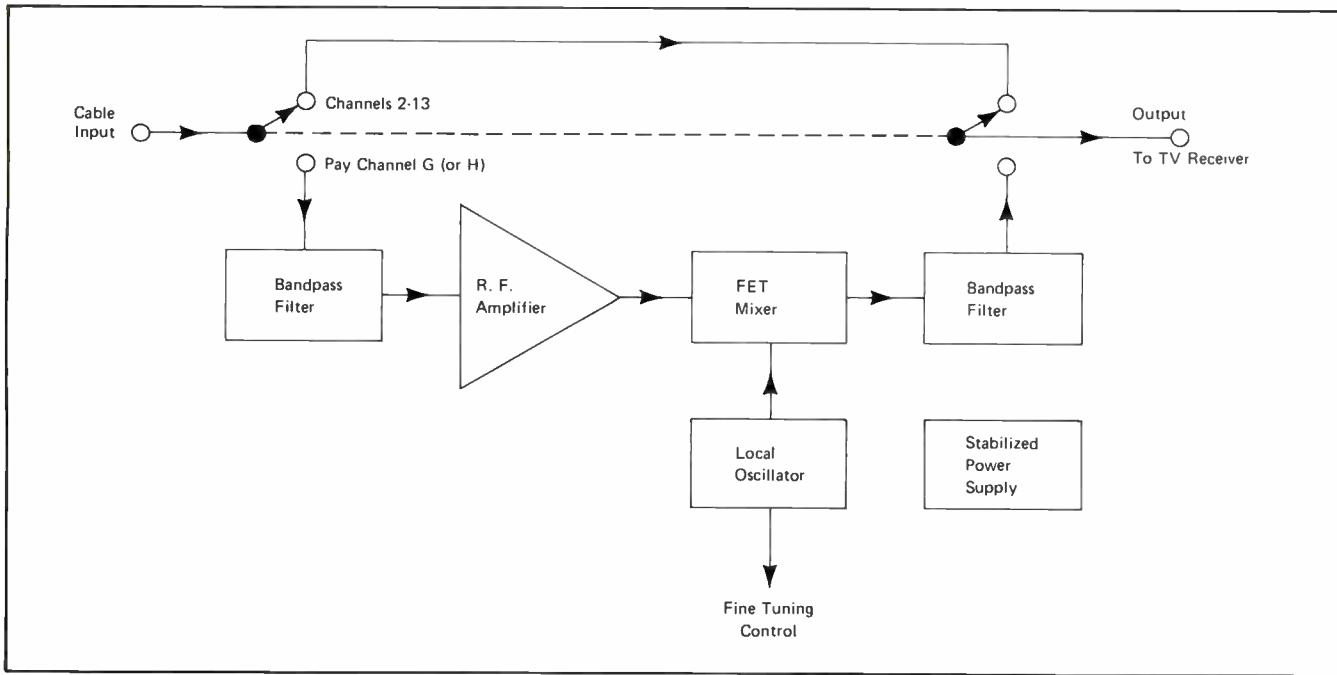

Figure 1. Oak Single Channel Converter Functional Block Diagram
**SCC (Single Channel Converter).** This converter (Figure 1) is intended for only one unscrambled pay TV channel, G or H. It passes the regular channels 2-13 unmodified, and converts the pay channel to either Channel 3 or 4. Single conversion with non-inverted carriers is used.